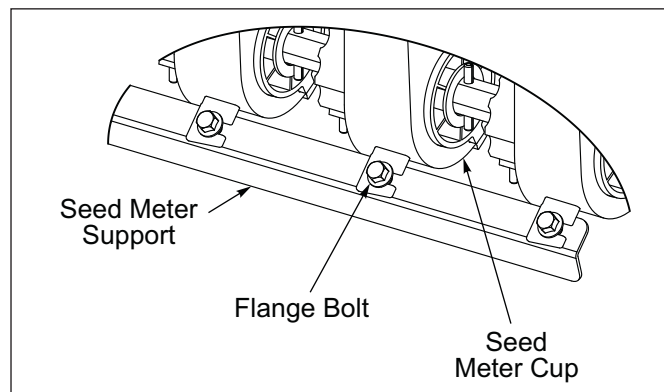
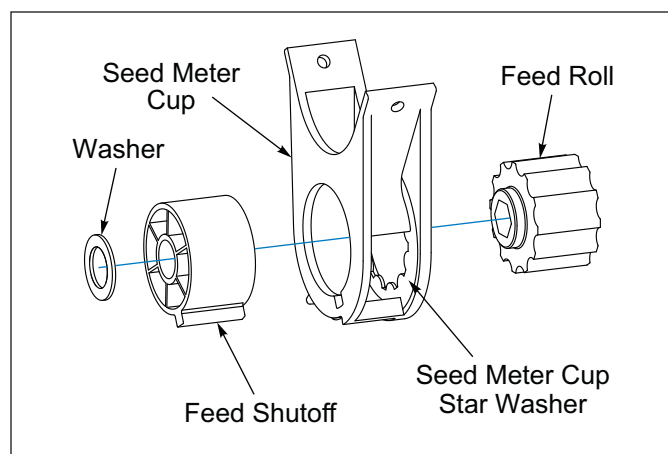

Figure 5-9: Seed Meter Supports
Figure 5-12: Large Seed Meter
Ensure that the Seed Shaft can turn freely without any binding when the Seed Meters are open or closed after servicing. Seed Box with Large Seed Meters you may need to make adjustments to the Seed Meter Supports at each Seed Meter Cup. See Figure 5-9.
4. **Front Seed Box:** Individual Seed Meter Cups can be adjusted as required. Adjustments can be made by loosening the 1/4-20 x 5/8 Machine Screws that mount the Seed Meter Cup to the Seed Box and the 1/4-20 Nut that attaches the Seed Meter Support to the Seed Meter Cups. **See Figure 5-9.** Adjust the affected Seed Meter Cup so the Feed Shutoff is against the Seed Meter Cup Star Washer in the Seed Meter Cup (closed). Be sure the Feed Roll stays engaged in the Seed Meter Cup Star Washer. **See Figure 5-12.** Check for binding by turning Seed Shaft. After adjustments have been made seal the Seed Meter Cups to Seed Box with clear Silicone.